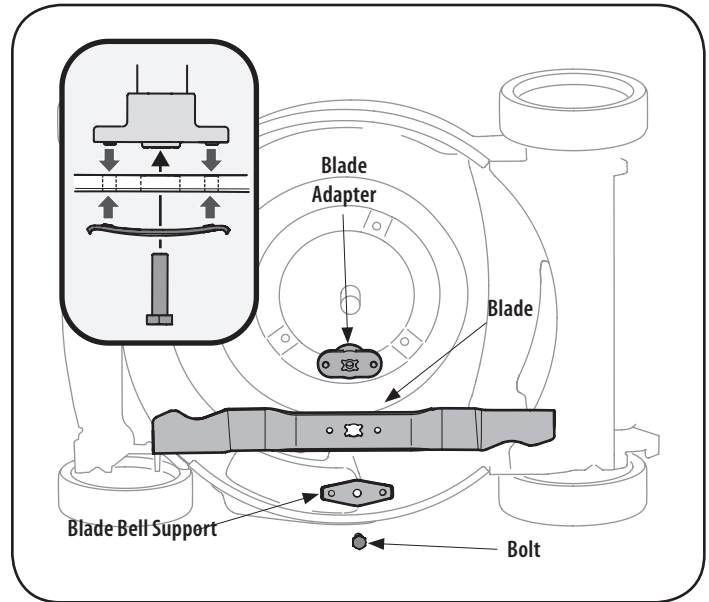

Figure 13
3. Remove the bolt and the blade bell support which hold the blade and the blade adapter to the engine crankshaft. See Figure 13.
6. Lubricate the engine crankshaft and the inner surface of the blade adapter with light oil. Slide the blade adapter onto the engine crankshaft. Place the blade on the adapter such that the side of the blade marked "Grass Side" (or with part number) faces the ground when the mower is in the operating position. Make sure that the blade is aligned and seated on the blade adapter flanges. See Figure 13 inset.